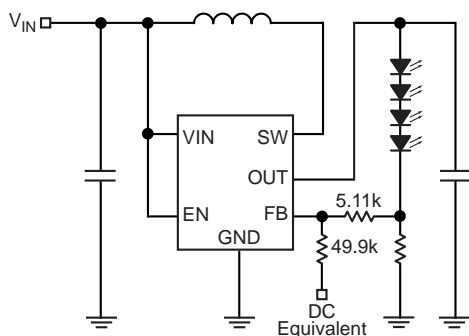

Figure 2. Continuous Dimming
2. Continuous dimming control is implemented by applying a DC control voltage to the FB pin of the MIC2289 through a series resistor as shown in Figure 2. The LED current is decreased proportionally with the amplitude of the control voltage. The LED intensity (current) can be dynamically varied applying a DC voltage to the FB pin. The DC voltage can come from a DAC signal, or a filtered PWM signal. The advantage of this approach is that a high frequency PWM signal (>10kHz) can be used to control LED intensity.